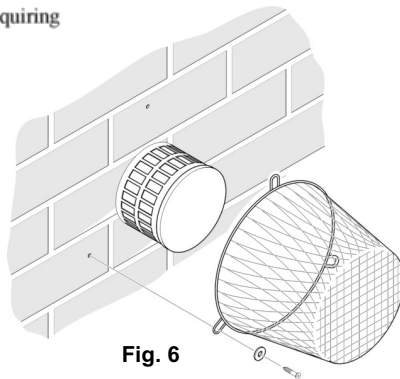

Fig. 6
c. The guard must be screwed to the wall over the flue terminal and be at least 50mm (2 in) clear of any part of the terminal. A suitable guard is available direct from the GDC Group service dept., Part No. 080266 (Fig. 6).